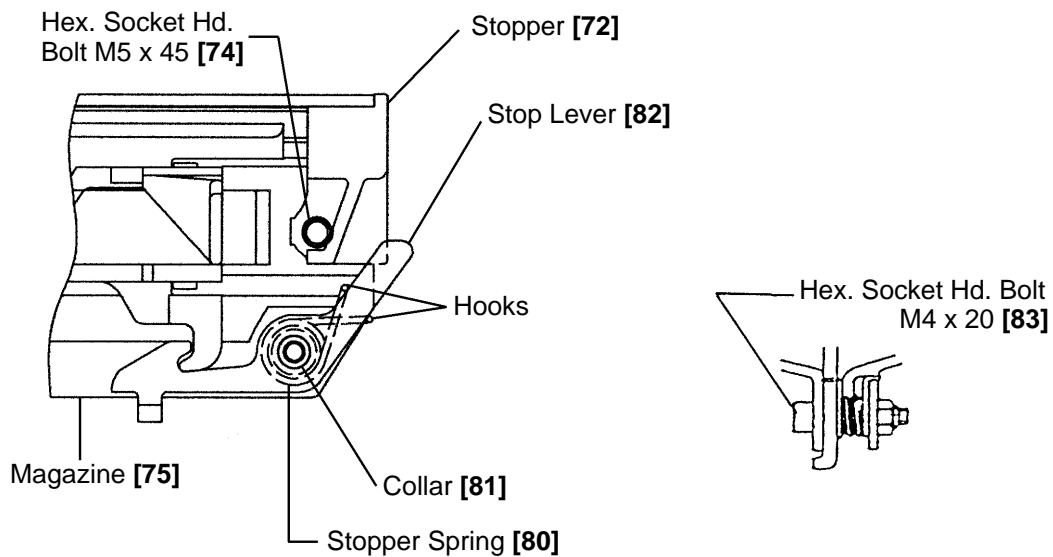

Fig. 13 Reassembly of the Stop Lever, Stopper Spring, etc.
- Temporarily secure the Stopper [72] and Magazine Guard (B) [73] with the Hex. Socket Hd. Bolt M5 x 45 [74] before mounting the Stopper [72], Stop Lever [82], Stopper Spring [80] and the related parts. As shown in Fig. 13, insert the Collar [81] into the Stop Lever [82] and secure it with the Hex. Socket Hd. Bolt M4 x 20 [83] together with the Stopper Spring [80]. At this time, hitch a hook of the Stopper Spring [80] on the Stop Lever [82] and the other hook on the Magazine [75].